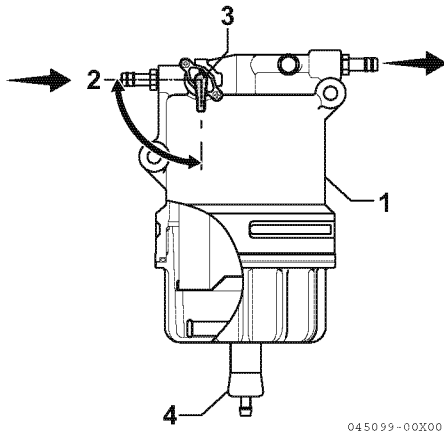

Figure 5-7
1. Position an approved container under the fuel filter/water separator (**Figure 5-7, (1)**) to collect the contaminants.
2. Close (**Figure 5-7, (2)**) the fuel cock (**Figure 5-7, (3)**).
3. Loosen the drain cock (**Figure 5-7, (4)**) at the bottom of the fuel filter/water separator. Drain any water collected inside.
5. Open the fuel cock (**Figure 5-7, (3)**).